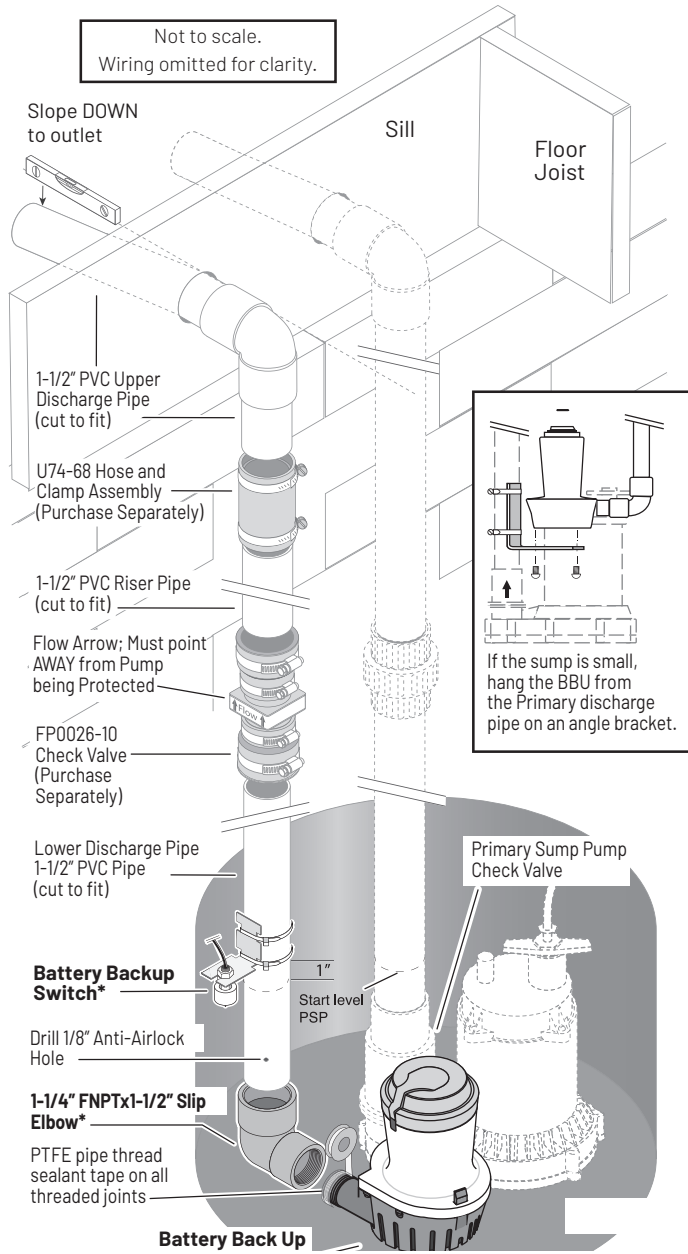

Figure 2: Separate Discharge - Typical Installation
- ◆ Study pages 5-8 to determine which installation method will be best for you. The "Separate Discharge" (Figure 2), installation is recommended.
Mount the backup pump on the angle bracket (Figure 2).